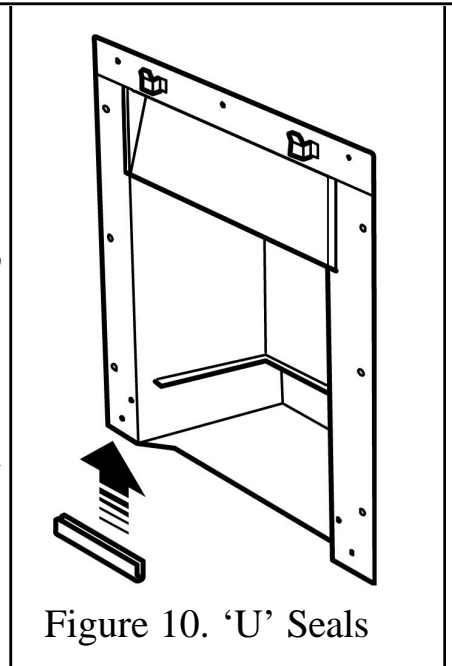

Figure 10. ‘U’ Seals
2. Fit the two “U” section seals to the bottom edges of the hotbox side flanges (See figure 10).